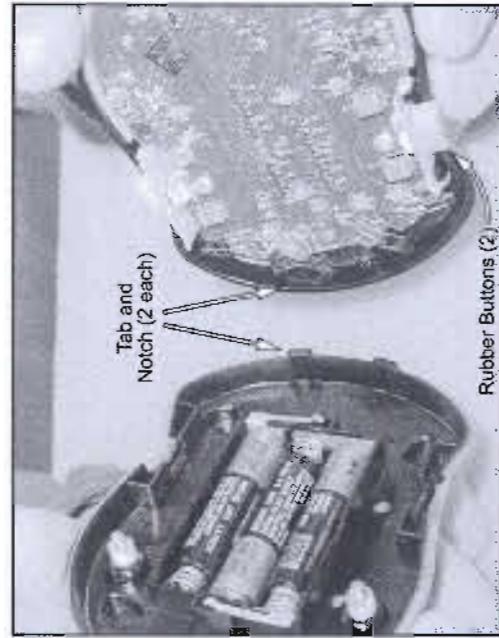

Figure 4-3 Two Halves of Remote Control
- 4.4 Grasp two halves of remote and tip edges together as shown (see Figure 4-3). Two tabs inside bottom edge of remote must match up with two notches in other half of remote.
System faults are the result of an exceptional condition resulting from an error or a hardware failure that renders the software unable to carry out a requested service, or one that results in unacceptable risk (see Figure 4-3). When a system fault is detected, the following occurs: